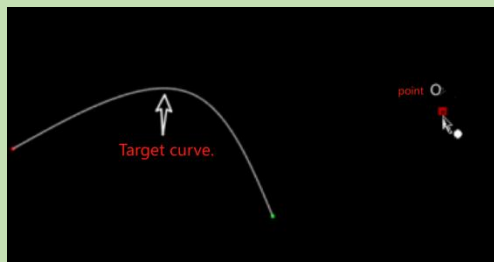

Figure4-26
(1) Left click on the known point O. (Figure4-26)